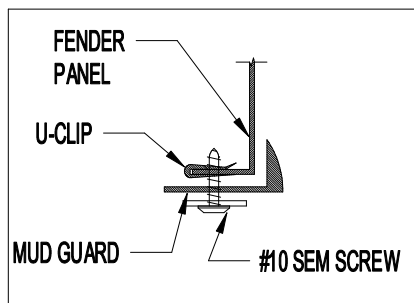

Figure 3
2. Install a U-clips at location A and B (Figure 3).